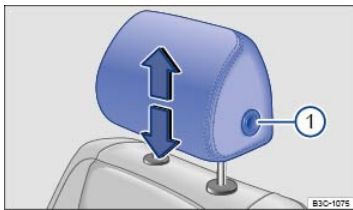

Fig. 89 Adjusting the front head restraints.
- While pressing the button ⇒ Fig. 89①, pull the head restraint up or push it down ⇒ .